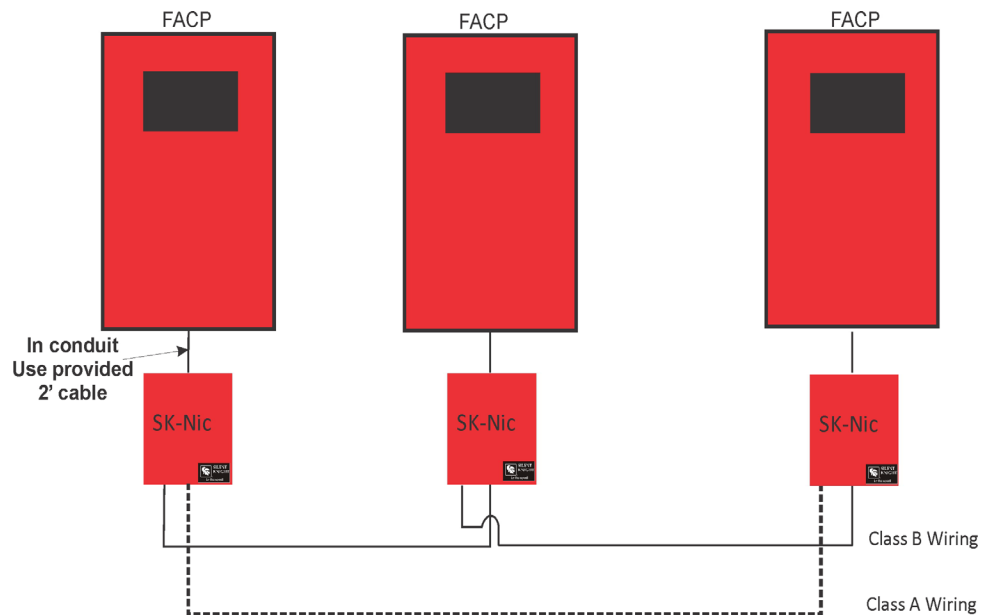

Figure 5.1 External SK-NIC Wiring Option
Whelinking in a group of 6700 you must use the SK-NIC to link the panels together. See Figure 5.1 for external mounting of SK-NIC option.
2. Use the 6-pin cable included with SK-NIC to connect the 6700 to the SK-NIC. The 6-pin cable must be run in conduit. See Figure 5.1.